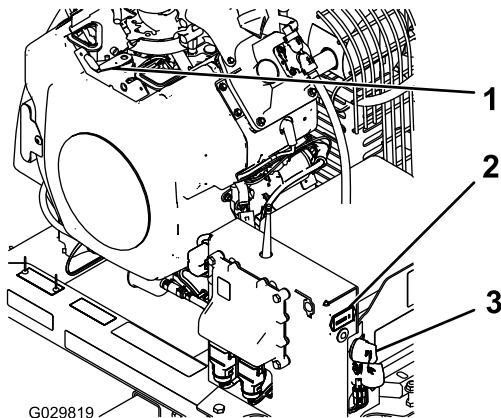

Figure 12
3. Rotate the engine ignition key to the START position (Figure 12).
- If leaving the machine, rotate the key to the OFF position and remove it from the engine (Figure 12).